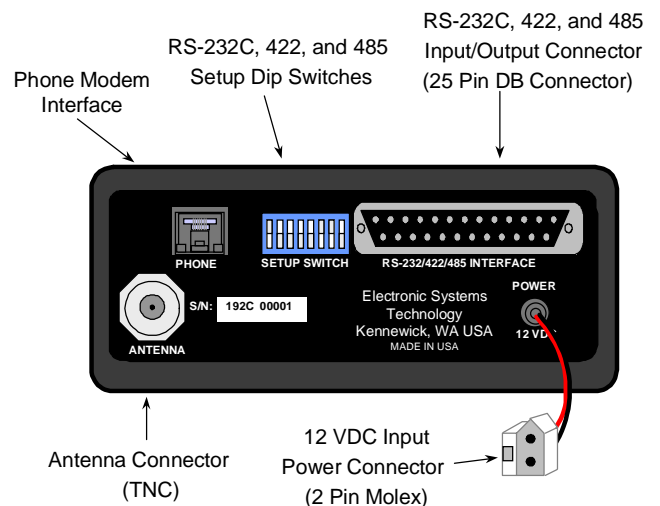

Figure 5: ESTeem Rear Panel Diagram
- This next section is titled Set RS-232 Switches of the ESTeem. Press ENTER and the window will display how the RS-232 switches on the rear of the ESTeem (Figure 5) need to be set to match the configuration of the computer's communication port that we set in step 5. Configure the switches on the ESTeem to match those listed in the window and press any key to continue.